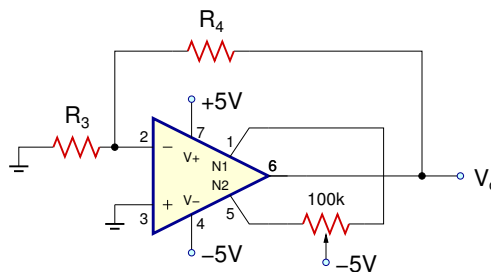

Figure 4: Compensation of offset voltage
3. To minimize the offset voltage, connect a $100\text{ k}\Omega$ potentiometer (pot) between pins 1 and 5 as shown in Fig. 4. Be sure to connect the center tap of the pot to the -5 V supply. Use the pot to zero the opamp's output. This is how the opamp's offset voltage is compensated.